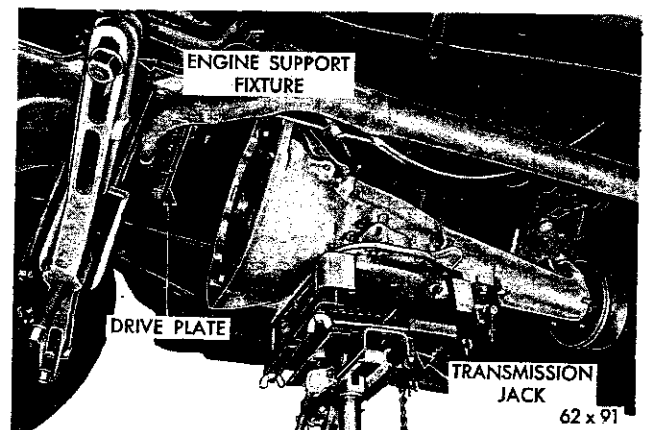

Fig. 43—Removing or Installing Transmission and Converter Assembly
(23) Remove the converter housing retaining bolts. Carefully work the transmission rearward off the engine block dowels and disengage the converter hub from the end of the crankshaft (Fig. 43).
(24) Lower the transmission jack and remove the transmission and converter assembly.
(25) To remove the converter assembly, remove the "C" clamp from the edge of the housing, then carefully slide the assembly out of the transmission.